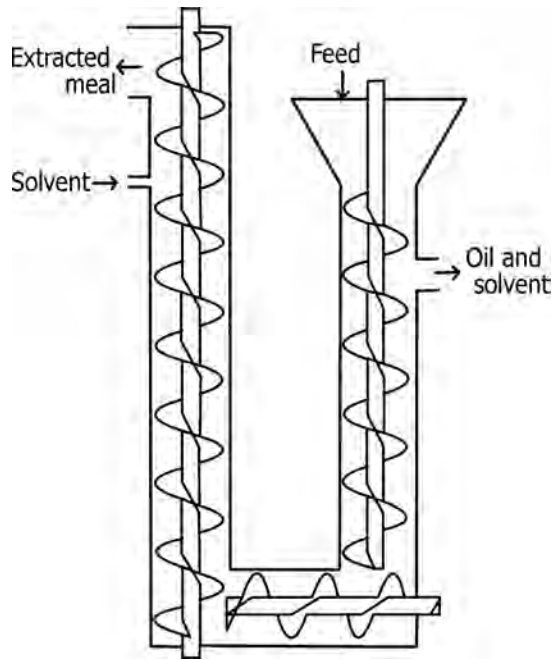

FIGURE 17.62 Hildebrand extractor.
- Figure 17.62 illustrates a screw type system called Hildebrand extractor with the flows of solids moving countercurrent to the solvent and extracted oil as shown.